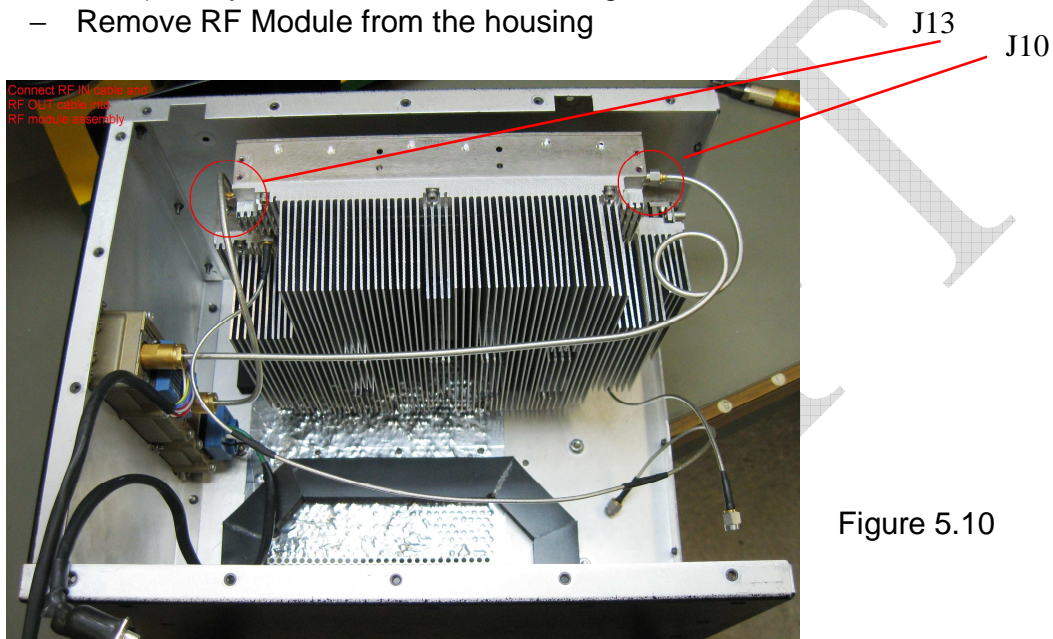

Figure 5.10
- Disconnect two Semi-rigid Cables J10 and J13 at locations shown on Figure 5.8 a) with yellow circles and on the Figure 5.10 below